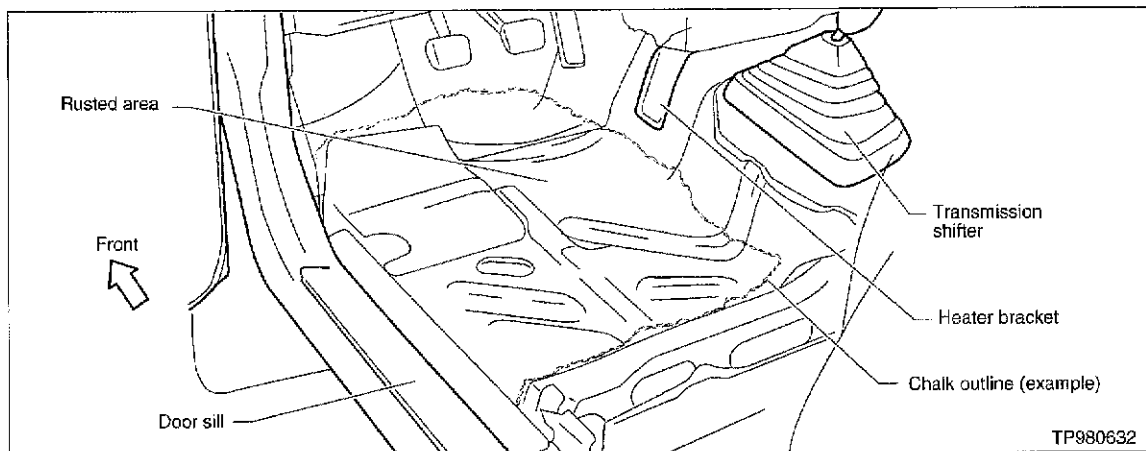

Figure 1
7. Inspect the area of corrosion. Clean all dirt, floor insulation and debris away from the area to be cut. This is necessary in order to see all the original spot welds holding the corroded section. Draw a chalk outline around the area to be removed (see Figure 1).